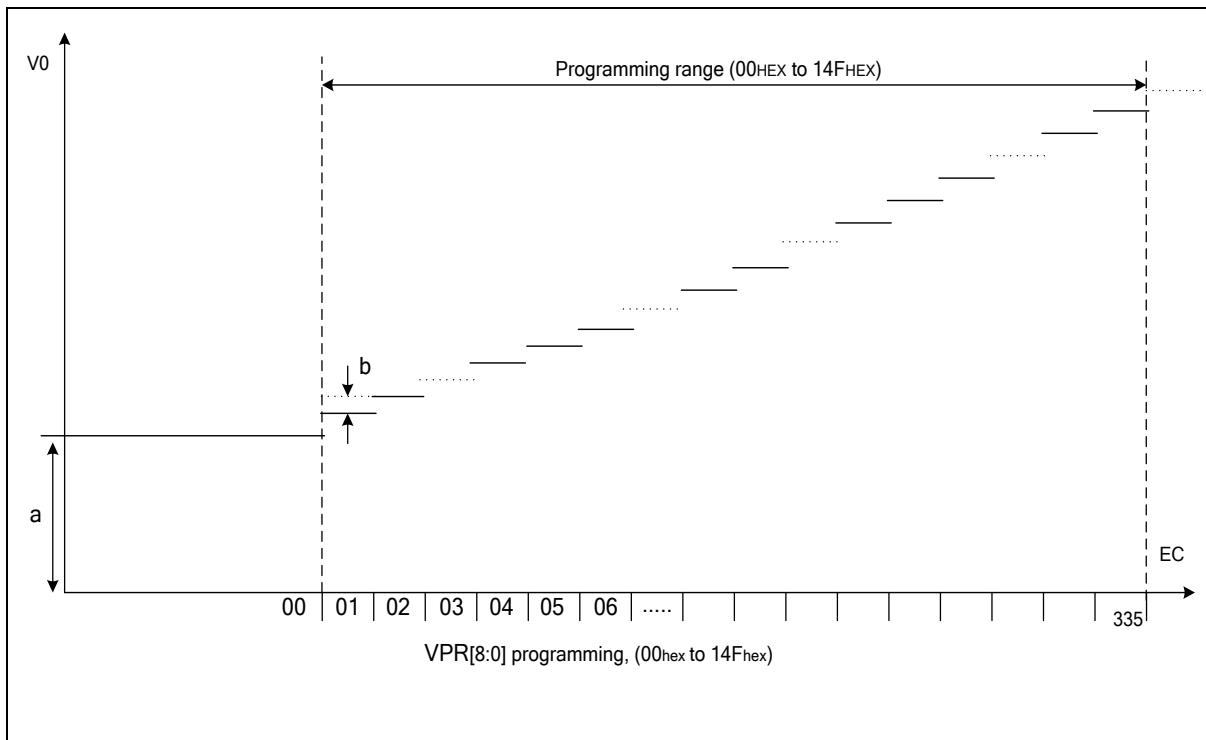

Figure 28 V0 programming range
The VPR[8:0] value must be in the  $V_0$  programming range as given in **Figure 28** Evaluating equation (1).